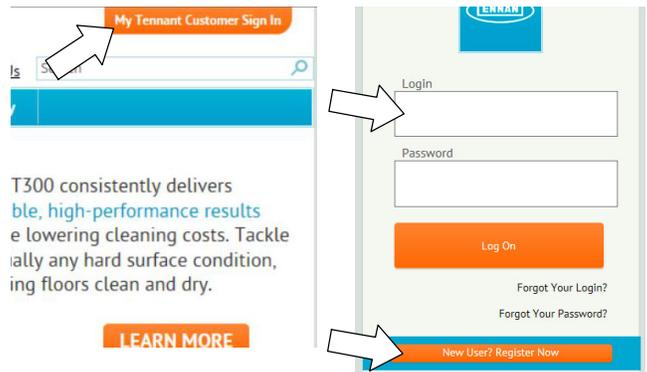

Fig. 27
1. Log in to the “My Tennant” website or register as a new user (Figure 27).